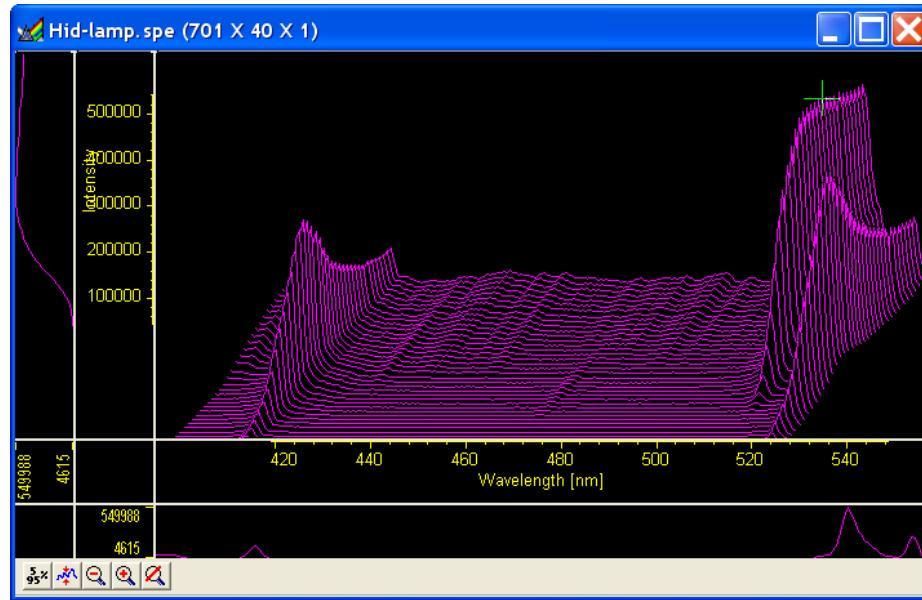

Figure 77. Hide-lamp.spe 3D graph expanded to show defined region
2. Click on (Zoom In). The view will change so that only the selected region is displayed as shown in Figure 77.